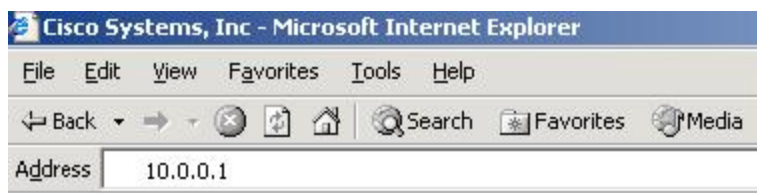

Figure E-5: Entering the IP Address
9. Launch a web browser on your PC or workstation, enter the IP address **10.0.0.1** (as shown in Figure E-5), and press **Enter**.